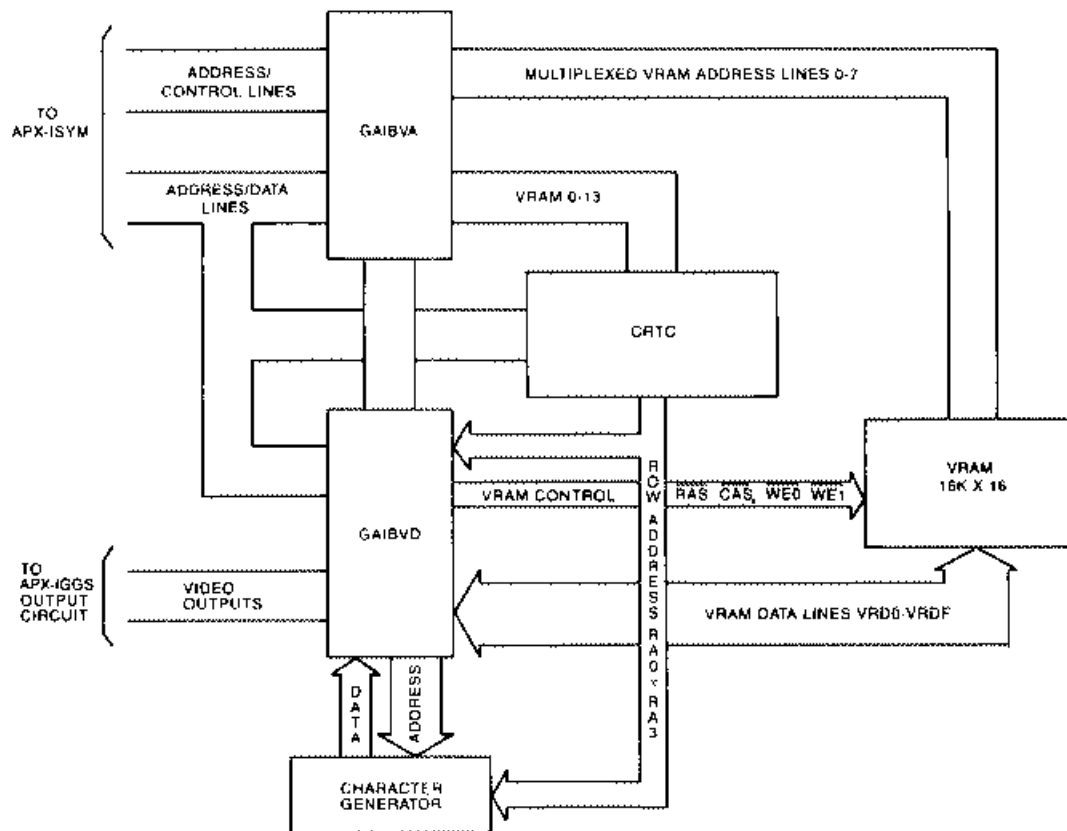

FIGURE 2-83. APX-ICRT BLOCK DIAGRAM
2.5.1 APX-ICRT Overview (Figure 2-83)
Figure 2-83 diagrams the connection of the VRAMs to the QX-16 system bus via the GAIBVA at 2D and the GAIBVD at 2F. The VRAMs are organized as 16K x 16 bits: the 16 bits of output data are input to the GAIBVD gate array for conversion to the video signal. VRAM memory is separate from the 512K system memory, and the devices used on the APX-ICRT board are different from those used on either the APX-ISYM or APX-IGGS boards.